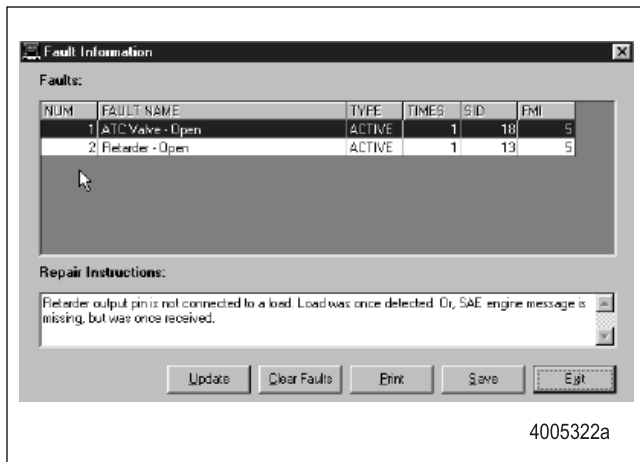

Figure 3.3
4. From the pull-down menu, select Faults to bring up the Fault Information screen. Figure 3.3.
5. A description of the fault, the number of times the fault occurred, the system identifier (SID) and the failure mode (FMI) are all displayed in the fault information window. Basic repair instructions for each fault are also provided. Figure 3.3. More detailed information about SID and FMI troubleshooting and repair is provided in the following sections.